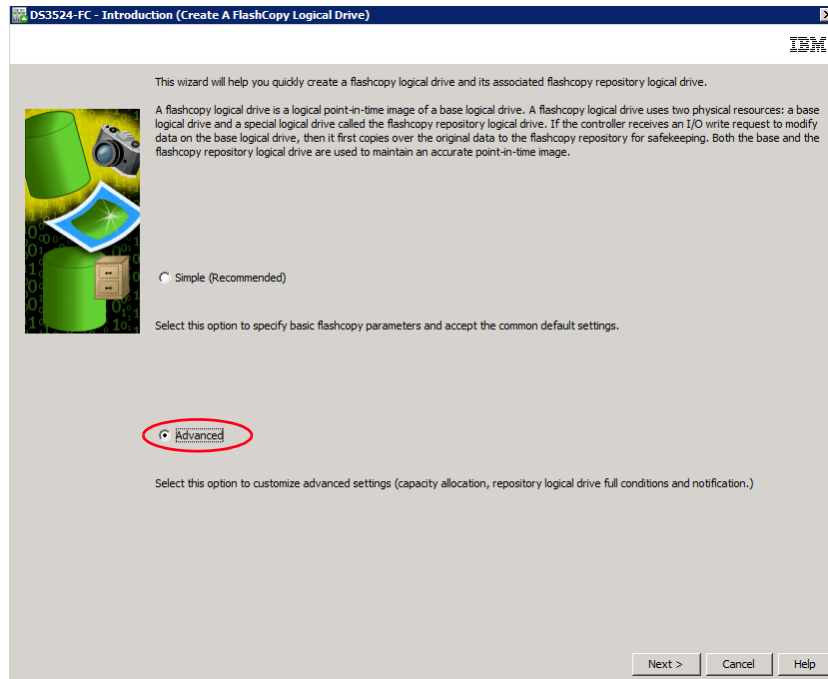

Figure 2-14 Create FlashCopy Logical Drive wizard: Advanced
3. If you select the **Advanced** path from the Create FlashCopy Logical Drive Wizard Introduction window (shown in Figure 2-14), click **Next**.